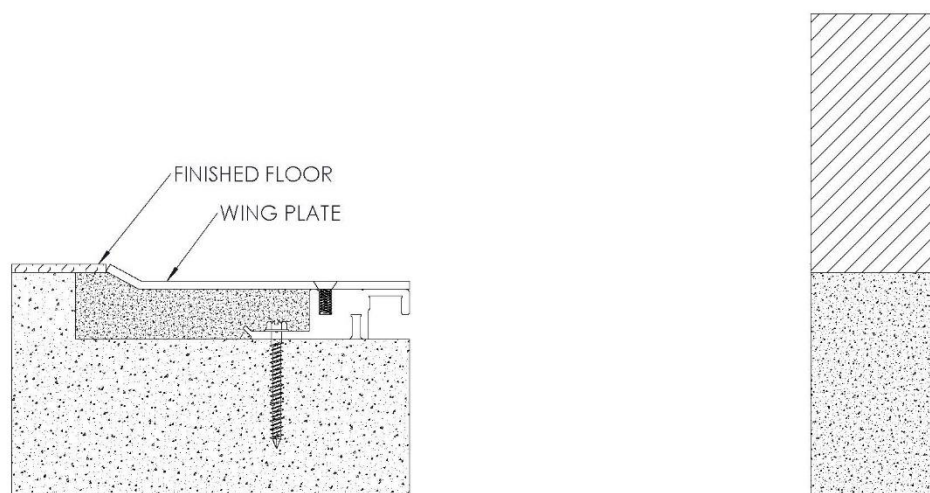

FIGURE 12
5. Finish floor may be installed after grout has cured. **See Figure 12**